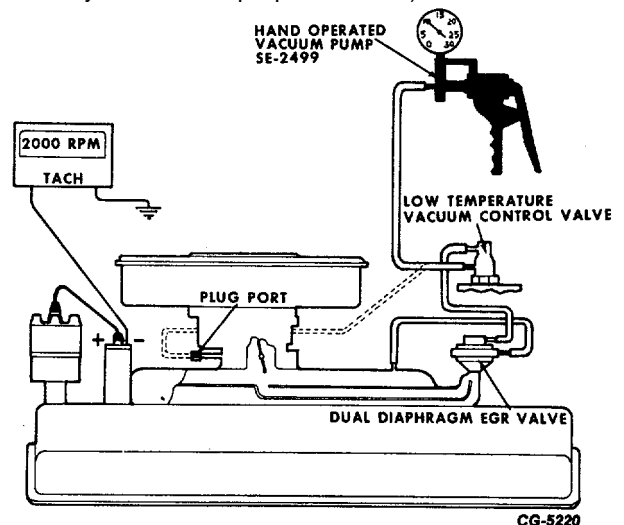

Fig. 51 Complete EGR System Test
- c. Apply 10-12" Hg vacuum to EGR valve vacuum port (Fig. 51). As vacuum is applied, valve pintle should move off seat and retract into valve housing until end of pintle is approximately flush with surface of valve housing. If valve does not operate when vacuum is applied, valve is faulty and should be replaced. 15A. Replace EGR Valve